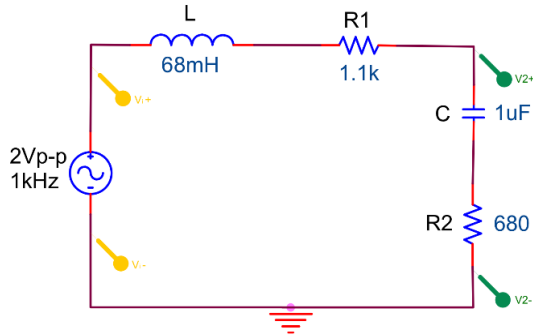

Figure 12.9
- Construct the circuit of Figure 12.9. Use the oscilloscope to measure the magnitude of the phasor V_2 and θ_1 . After, measure the voltage across the 680Ω resistor.
4. Construct the circuit of Figure 12.9. Use the oscilloscope to measure the magnitude of the phasor V_2 and θ_1 . After, measure the voltage across the 680Ω resistor.